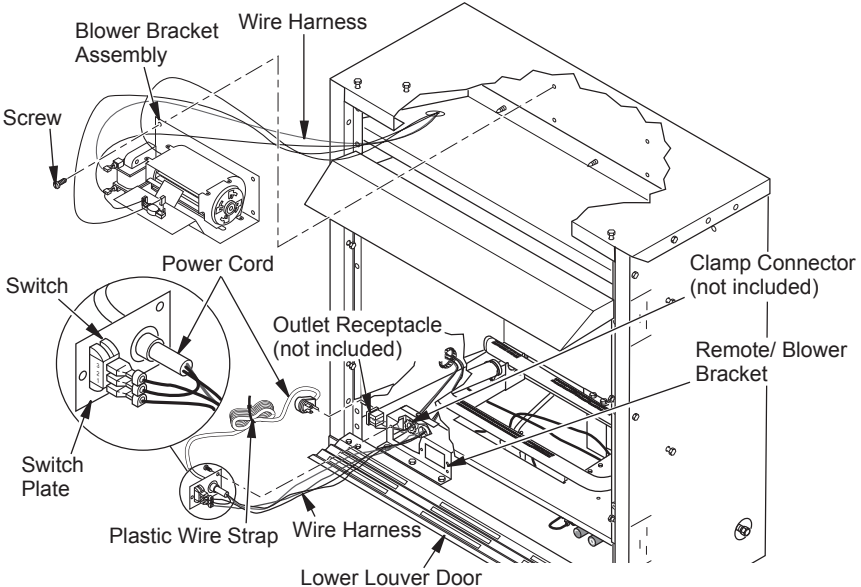

Figure 20 - Installing Blower Bracket Assembly
1. Install snap bushing from blower kit into one hole on rear of remote/blower bracket (see Figure 20). The other hole is for a strain relief clamp (not supplied) to secure incoming electrical supply.
4. Plug power cord to outlet receptacle (not provided) as shown in Figure 20. Wind extra cable of power cord and tie up with plastic wire strap (see Figure 20). Set cable bundle between the remote/blower bracket and outer casing, away from the burner.